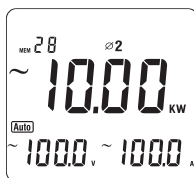

Figure 9
- After sum up the current power measurement value of the first phase, then press **SELECT** to choose the second phase $\Phi 2$, as figure 9.
- After sum up the current power measurement value of the first phase, then press **SELECT** to choose the second phase Ø2, as figure 9.